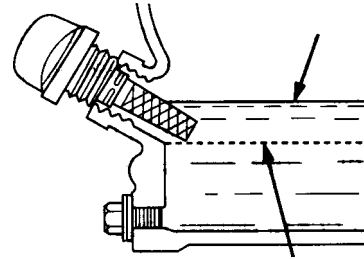

Figure 8. Engine Oil Dipstick (Oil Level)
4. If the oil level is low (Figure 8), fill to the edge of the oil filler hole with the recommended oil type (Table 4). Maximum oil capacity is .63 quarts (0.6 liters)